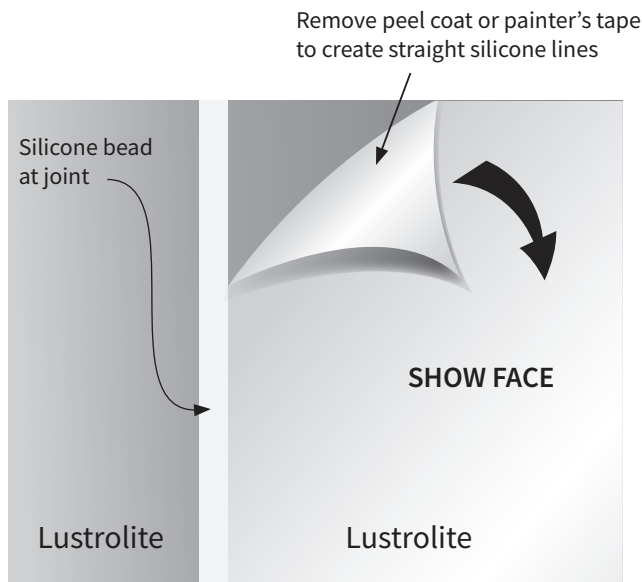

Figure 29: Removing Peel Coat
- When other trades have finished, carefully remove each peel coat to create a neat and straight finish to the silicone (Figure 29)